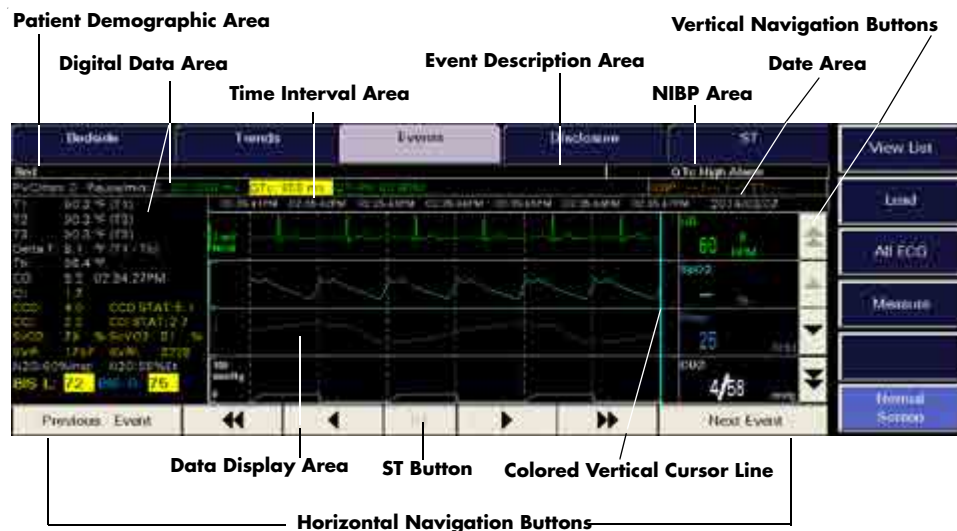

FIGURE 7-19 Waveforms View of the Events Tab
The **Waveforms** view (shown in FIGURE 7-19) of the **Events** tab displays waveform data for the selected patient. In order for the event to display in the **Waveforms** view, there must be waveform data associated with the event. Physiological alarm events and 'marked events' are stored as waveform data. All previously collected data is displayed, even if the parameter is not currently being monitored.
3. Select a physiological alarm event or marked event (for example, High Heart Rate Alarm) from the **List** view for the selected patient, then select the **View Waveforms** sidebar button. The selected event is displayed in the **Waveforms** view (shown in FIGURE 7-19).
With the addition of system-wide paging, a paging notification can be sent to clinicians to alert them that a specific event type has occurred. If a page was sent for a selected event in the **Waveforms** view, an asterisk (*) will appear beside the event in the event description area (shown in FIGURE 7-19). The paging information related to the event can be viewed by selecting the **Comments** sidebar button. The Comments dialog box will display either a **Page Sent** or a **Page Failed** message. If the selected event does not have an asterisk beside the event description, this indicates that a page has not been sent for the selected event. In this case, the **Comments** sidebar button will be disabled.